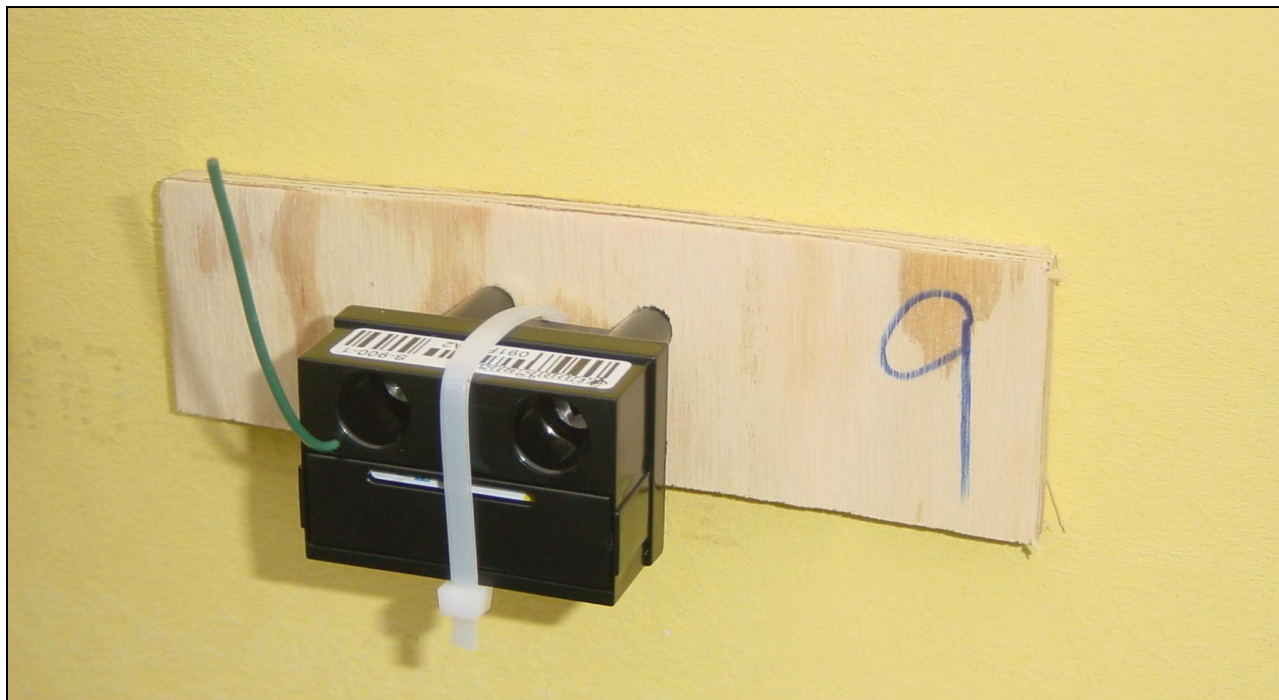

Figure 2 - Properly Mounted S-900-1 Sensor
4. Using the #10 x 3" stainless steel deck screw with the split washer under the screw head, screw the sensor to the plywood as shown in Figure 2 while pressing the plywood firmly against the gypsum panel. Use a "mid-range" torque setting on the drill/driver. Over torque will damage the sensor and under torque can result in faulty sensor Moisture Content readings.
5. Optionally secure the zip tie around the sensor as shown in Figure 2 – this is done to ensure the battery will not be ejected if the surface the sensor is mounted on is subjected to high G force impacts such as hammer blows.
6. For best wireless range and reception straighten the antenna and then bend it such that it points skyward as shown in Figure 2.